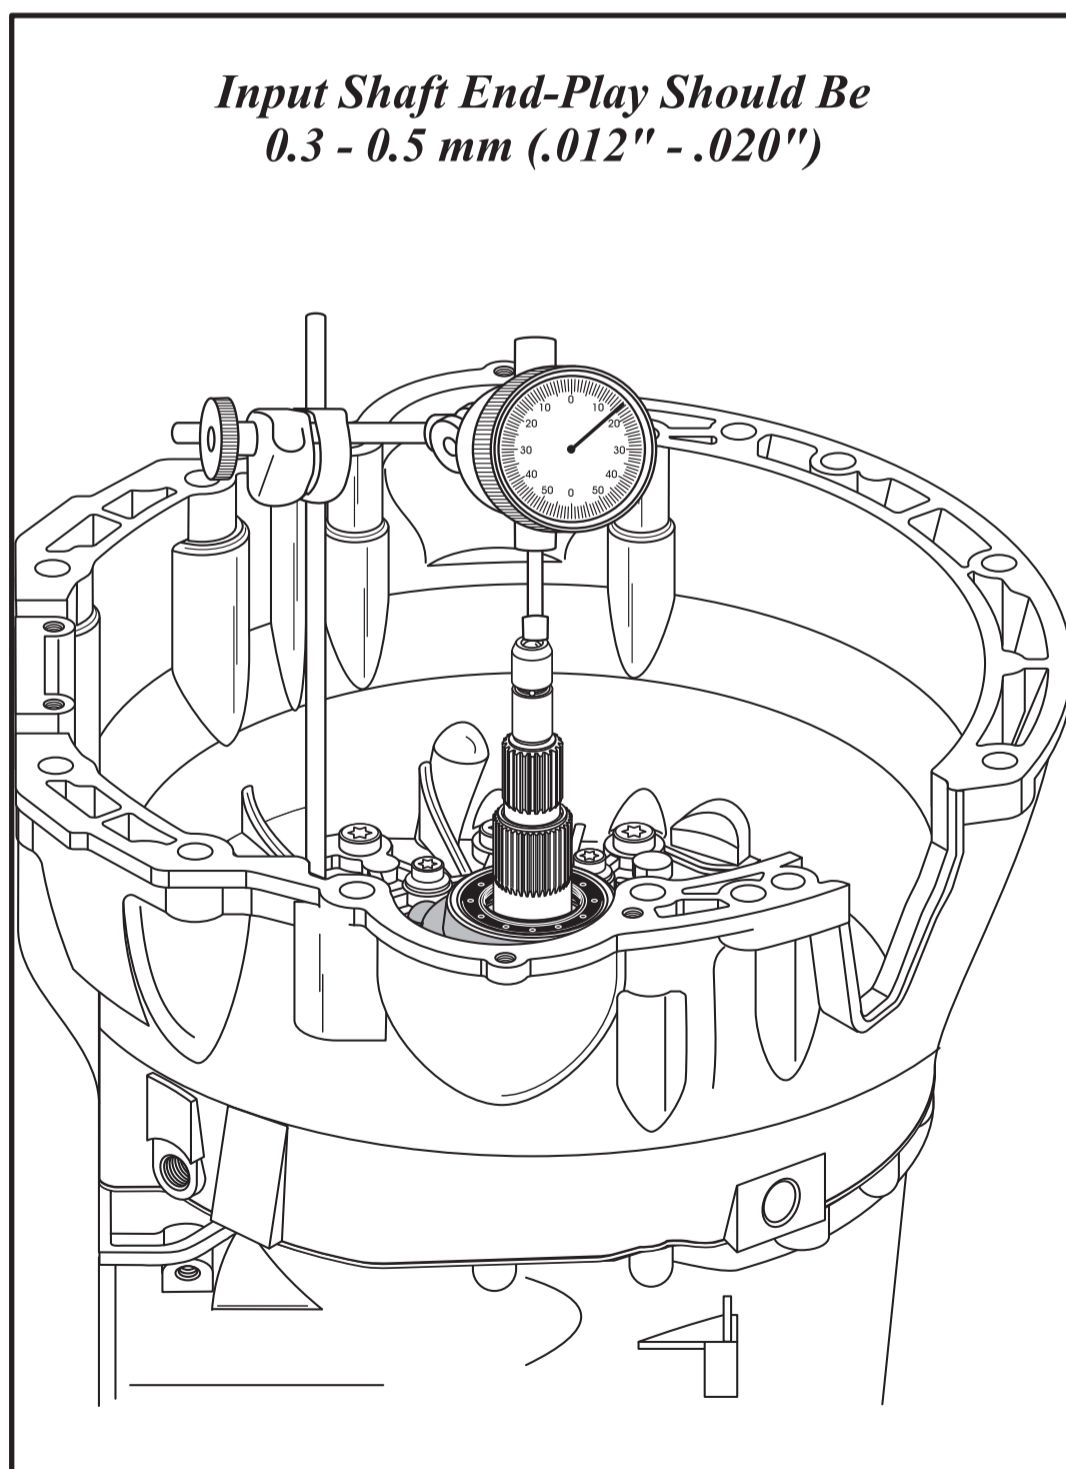

Figure 42
5. Install dial indicator on transmission, as shown in Figure 42, with the plunger against flat spot on the input shaft.